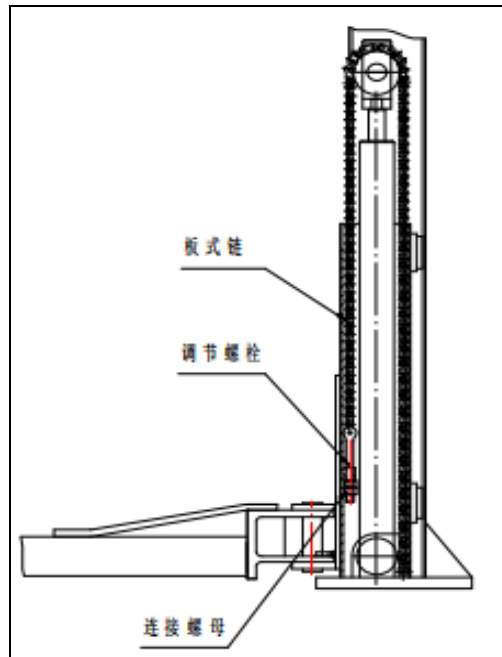

Figure 13
Install the adjustment plate chain to the correct position (see Figure 13), specifically at the lowest point where the support arm can swing freely without scratching the floor. This step is pre-adjusted by default, but customers may make fine-tuning adjustments post-installation (after completing electrical and hydraulic system installation). To adjust: First lift the carriage to a high position, lock it and lower for 2 seconds. Set the adjustment nut to the desired position, then raise the carriage. After locking and releasing, proceed with required operations.
- 7) Check whether the connecting nut of the plate chain and carriage is loose or fallen off. (See Figure 13)